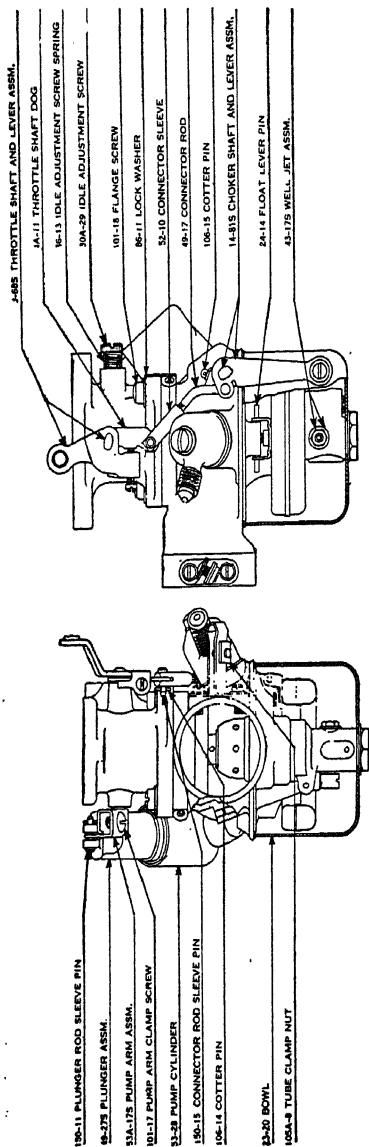

Fig. 142. Front and Side View of Chrysler-Plymouth Carburetor with Names of Parts
**Carburetor Adjustments.** *Choke.* The choke is hooked up in connection with the throttle lever, Fig. 142, so that when the engine is choked, the throttle is opening slightly. When warming up the engine, set the choke to a position where the engine runs best, pushing it in to regular running position as rapidly as the engine warms up. The action of choking the engine automatically increases the engine speed enough to prevent it stopping or stalling in traffic. If the driver is in the habit of pushing the choke all the way in as soon as the engine starts, it is likely the engine will stall in traffic when the engine is cold, with the result that the benefits of the design are lost to him. The choke is operated by the small button or knob on the instrument board.
In order to adjust the idling mixture, the idling adjustment screw, Fig. 142, should be opened from one to one and five-eighths turns or until the engine hits evenly without loading or missing. Turning this screw in gives a richer mixture and turning it out gives a leaner mixture.